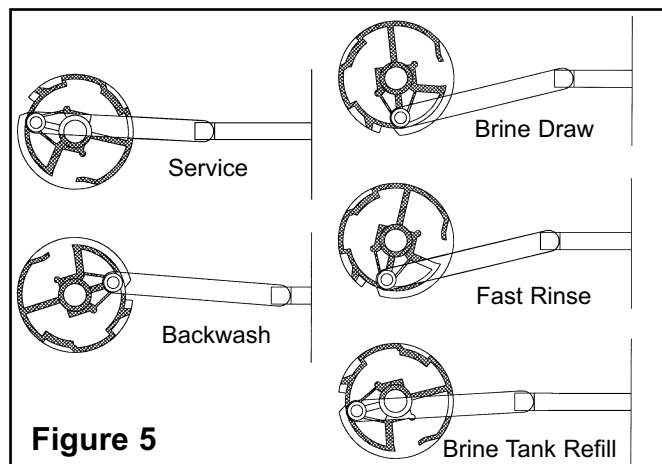

Figure 5
- Manually turn the manual regeneration knob on the timer slowly through backwash, brine draw, fast rinse to the Brine Tank Refill cycle. Once in the Brine Tank Refill cycle, allow valve to fill tank automatically. The correct amount of water is automatically metered into the air check tube in the brine well into the brine tank. The Brine Tank Refill cycle can be located by observing the drain line and watching the movement of the piston gear (see Figure 5) on the valve. These cycles are as follows: